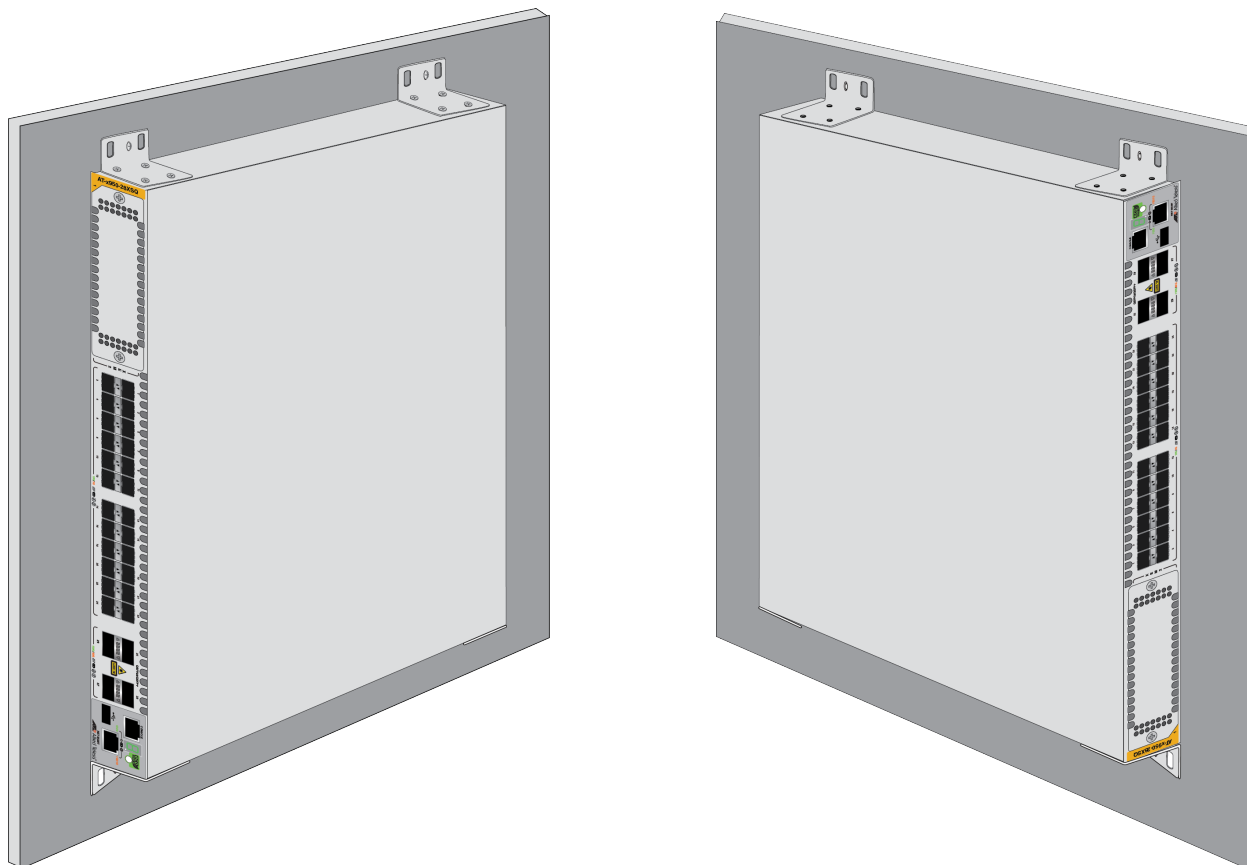

Figure 87. Positions of the Switch on the Wall
You can install the switch on a wall with the front panel on the left or right, as shown in Figure 87. Do not install it with the front panel on the top or bottom.
- ☐ Position the switch so that the front panel is either on the left or the right. Refer to Figure 87 on page 148. You may not install the switch with the front panel facing up or down.